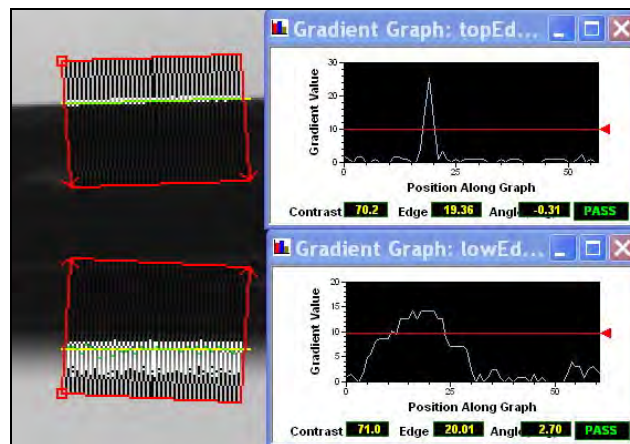
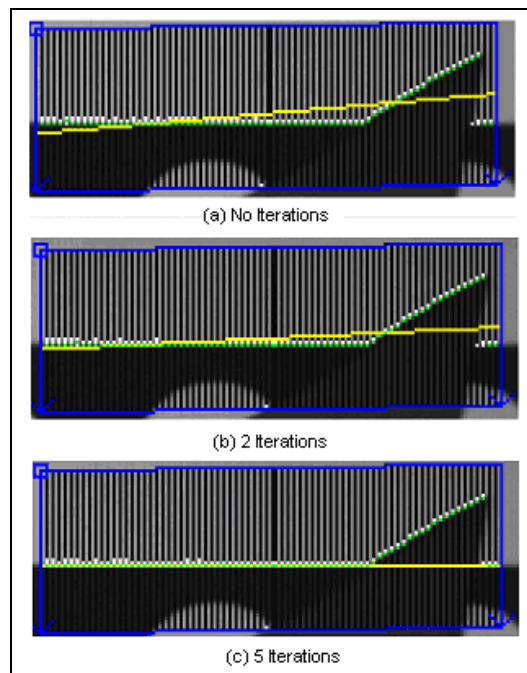

Figure 3-12: Area Measurement SoftSensors in presence of sharp and fuzzy edges. The gradient graphs indicate the width of the transition.
Figure 3-14: Use of the number of iterations to overcome imperfections/noise in the part.
- **Edge Width:** This option lets the user indicate how many pixels determine the edge to be used. If the images are not well focused, the edges will not appear as sharp. In those cases the user needs to give the SoftSensor an idea as to how wide the transition is to better calculate edge positions. Figure 3-12 illustrates more the use of this option. The SoftSensor finding the top edge faces a sharp transition while the one finding the bottom edge needs to overcome the effects of a fuzzy image. In this case, the edge width is set much higher for the SoftSensor in the bottom edge.
The Max Iterations option lets the user indicate how many times to recalculate the line/circle being interpolated using the data points. After every calculation, points are assigned a certain weight for the next calculation based on the distance from them to the computed output (line/circle). By doing this, the algorithm puts more emphasis of true edge points and less on noise. Figure 3-14 illustrates the use of this option. Image (a) shows the output line calculated with no iterations. As the image illustrates the output line is not on the edge because of the imperfection of the part. Images (b) and (c) show the same SoftSensor after 2 and 5 iterations.
The line fit SoftSensor (called Area Edge Line SoftSensor) is another area SoftSensor. It works just like the area caliper tool only that it scans in one direction. It consists of many scan lines (a number that the user can specify like in the Measure Across Area SoftSensor). Every scan line intersects the edge of the part being inspected and determines the intersection point. The algorithm then interpolates those points into a straight line which is the output of the SoftSensor. This type of tool is the one shown in Figure 3-12, Figure 3-13, and Figure 3-14.